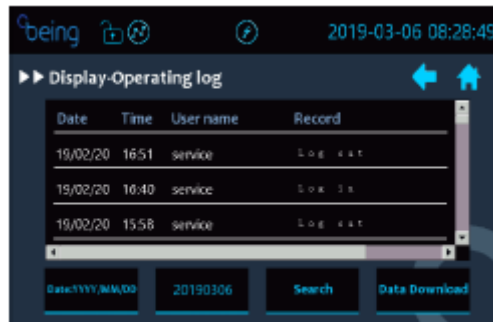

Figure 1-27.
2. Touch the “Operating Log” button from the display page to enter the operating log page, as shown in Figure 1-27.